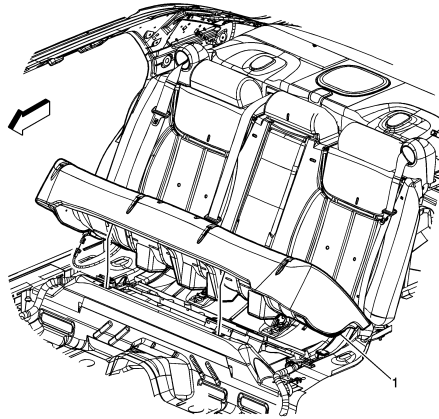

Fig. 1 Rear seat cushion removal
4. Remove rear seat cushion, **Fig. 1**.
7. Install rear seat cushion, **Fig. 1**.